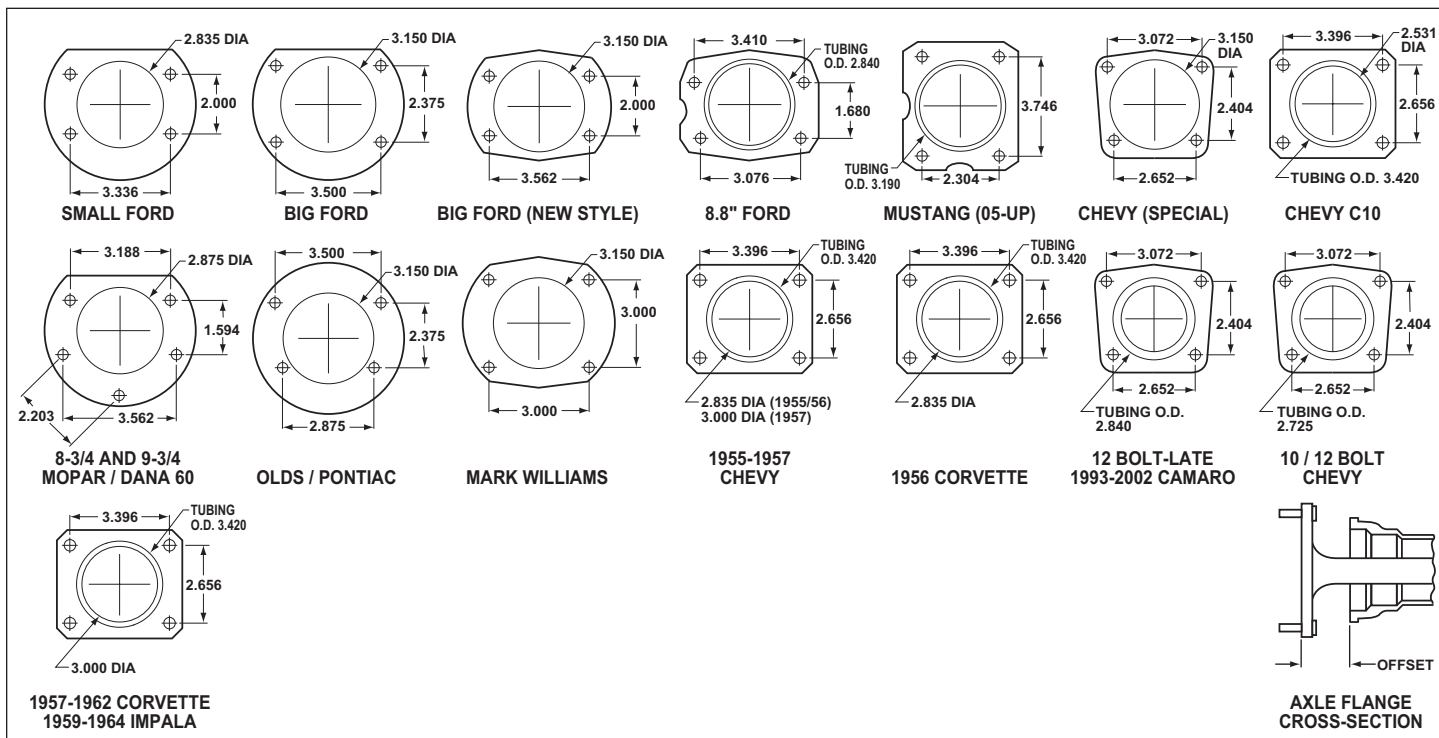

Figure 5. Rear Housing Flange Chart and Axle Flange / Offset Cross-Section
- Make sure this is the correct kit to fit the axle housing flange, not necessarily the rear end make. Many times after market manufacturers put a different make of axle housing flange on the stock rear end housing (see Figure 5). Example: Big Ford rear ends with Olds-Pontiac flanges, therefore, an Olds-Pontiac rear disc brake kit would be the correct kit to order. Also, shock clearance may be a problem. They may have to be modified and/or relocated to clear the Wilwood kit after final assembly.
- Dimension from wheel side of axle flange to wheel side of axle housing flange (see figure 5, lower right hand corner). This dimension is critical to ensure proper alignment of the rotor to the caliper, and should match offset given in the kit description.